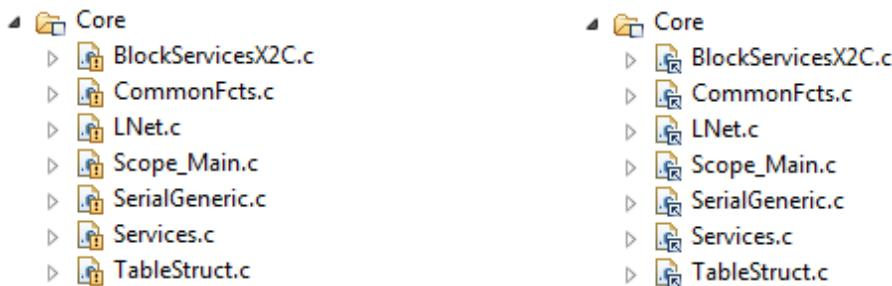

Figure 27: *Code Composer Studio* invalid (left) and valid (right) X2C root directory
3. In the *Code Composer Studio* file structure of the *Blinky* demo project there are two virtual folders *Blocks* and *Core*, which should be linked directly to the X2C directory. To ensure this go to **Project → Properties** drop down **Resource** and click **Linked Resources**. Double click on folder **X2C_ROOT** and set the correct link to your X2C installation directory (<X2C_ROOT>). After hitting **OK** two times there should not be any warning signs (like shown in Figure 27) at the icons for the linked files in the *Blocks* and *Core* folders.